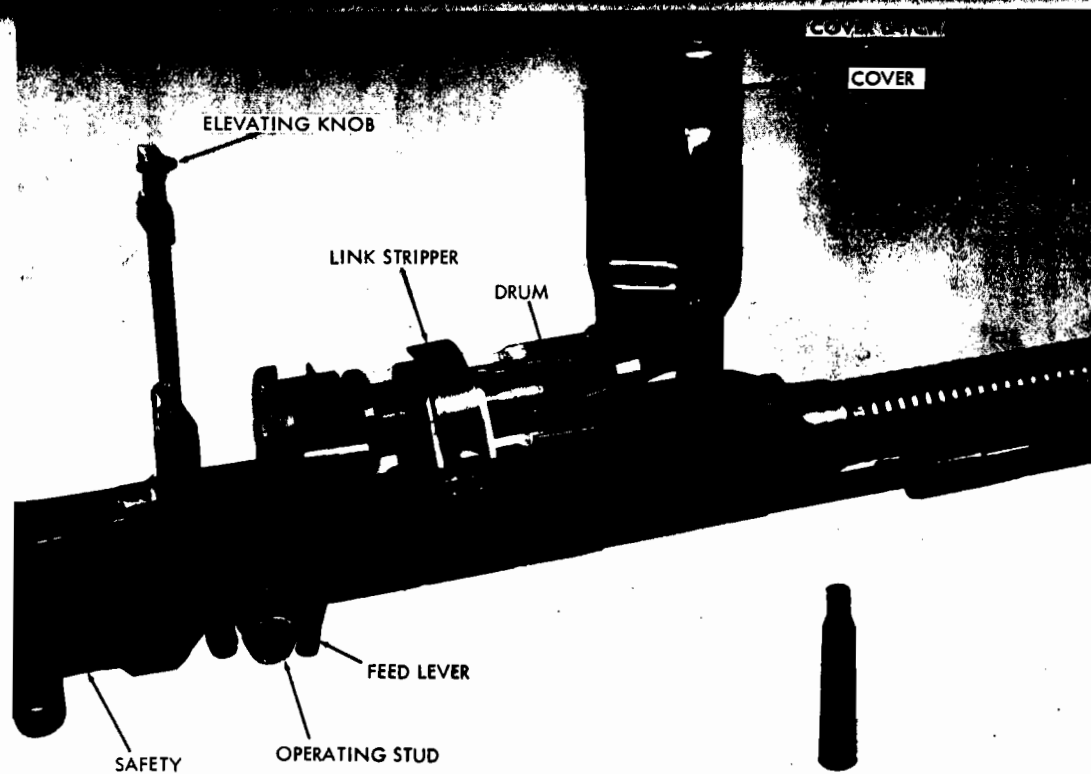

Figure 79. Degtyarev heavy machinegun, receiver and feeder, DShK-38.
c. To load the DShK-38 rotary feeder, press the cover latch and open the cover (fig. 79). Slip the link stripper into the first link, and place the first cartridge in the belt into the topmost compartment of the drum (fig. 79). Grasp the end of the belt with the right hand; with the left hand, press the belt against the drum; then sharply jerk the belt to the right and down so that the drum and cartridges will rotate as far as possible. Close the cover.
e. Pull the operating handle fully rearward; then thrust it forward. Caution: The gun is now ready to fire! If the gun is not to be fired immediately, rotate the safety (fig. 79) forward.
e. Pull the operating stud (fig. 79) to the rear, and remove the gas piston, bolt, slide, gas-piston tube, etc. Lift the bolt off the slide, and remove the firing pin and the locking flaps.